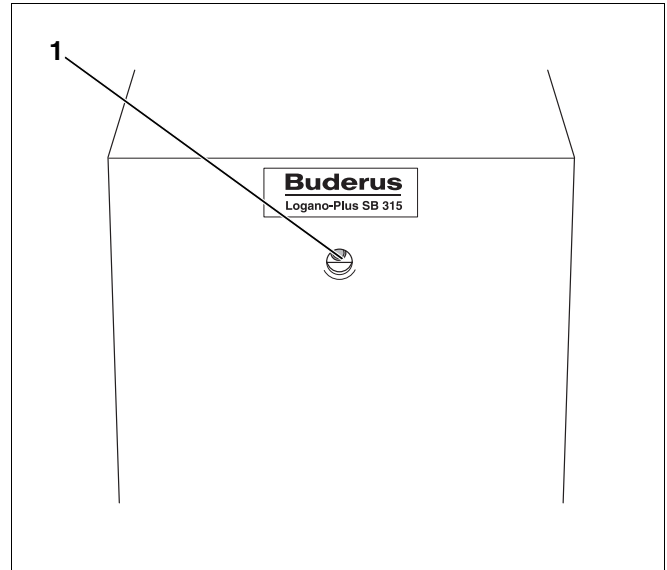

Fig. 4 Reset button with integrated fault lamp
- Press the reset button (Fig. 4, **item 1**) on the gas pre-mix burner.